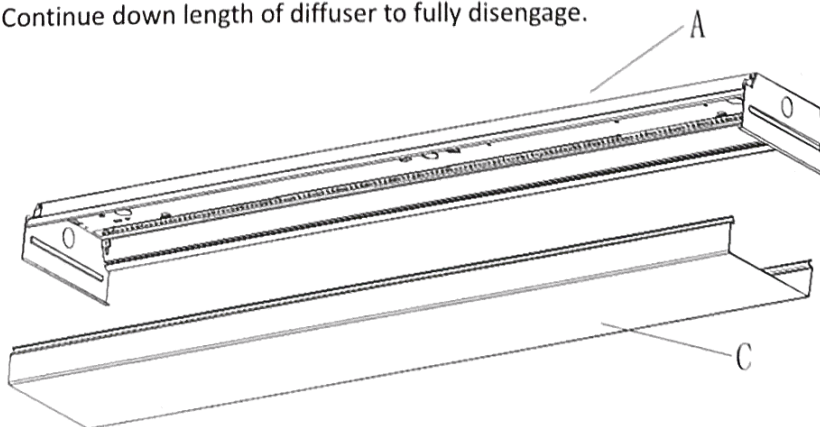

Figure 1
4. To install diffuser (Part C) starting at one of the housing insert diffuser slots onto the edge of the housing—see Fig 1. Carefully squeeze the diffuser to engage the opposite side with the housing. Continue this action down the length of the diffuser until fully installed onto the housing. (Figure 6)